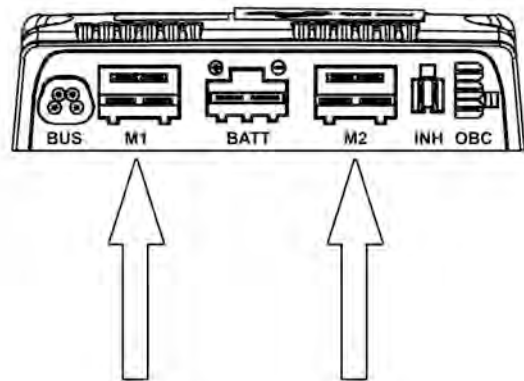

Figure 30. Drive motor connections.
7. Disconnect the drive motor connections from the Power Module. See fig. 30.